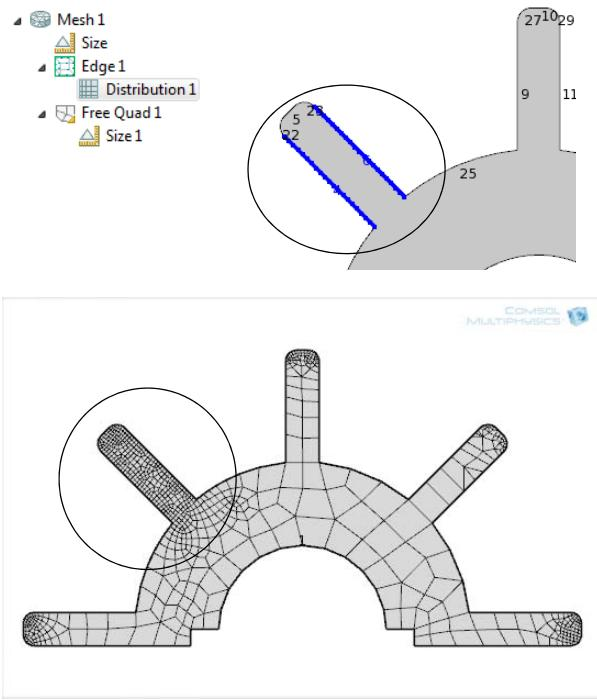

Figure 19-4: Adding a distribution attribute to two edges and rebuilding the mesh defines a finer mesh.
- 6 Click **Build Selected** (). In this example, the mesh elements are generated along the selected edges (Figure 19-4).